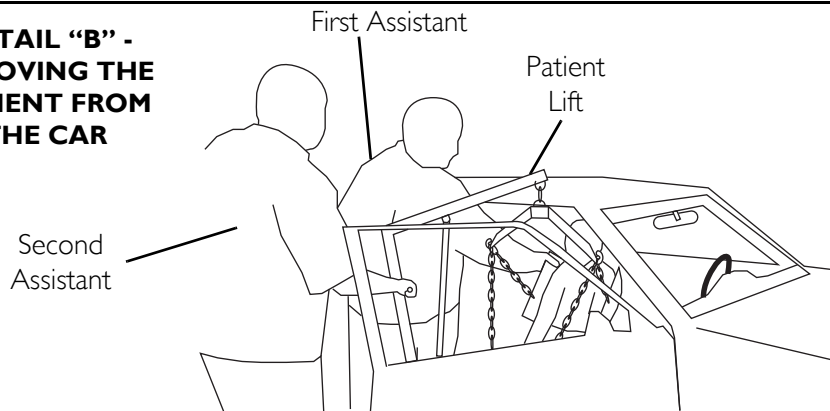

FIGURE 10.3 Transferring from a Car to a Wheelchair
NOTE: For this procedure, refer to FIGURE 10.3 on page 38.
2. Attach the sling to the swivel bar (Detail "A" of FIGURE 10.3).
6. The second assistant should pull the patient lift away from the car until the patient is completely clear of the door frame (Detail "B" of FIGURE 10.3).